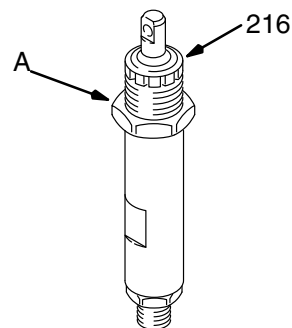

Fig. 35 02578
- Tighten the packing nut (216) hand tight. Screw the cylinder locknut (A) down to the bottom of the external cylinder threads. See Fig. 35.